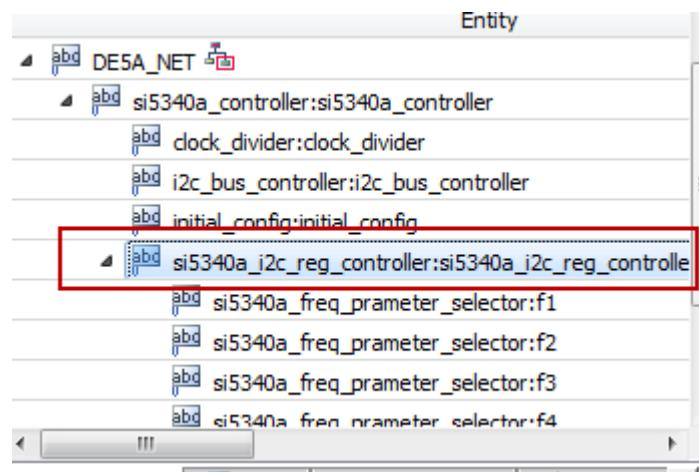

Figure 5-9 Sub-Module file "si5340a_i2c_reg_controller.v"
- Open Si5340 control IP sub-module “si5340a_i2c_reg_controller.v” as shown in **Figure 5-9**, refer Design Report parameter to modify sub-module corresponding register value (See **Figure 5-10**).